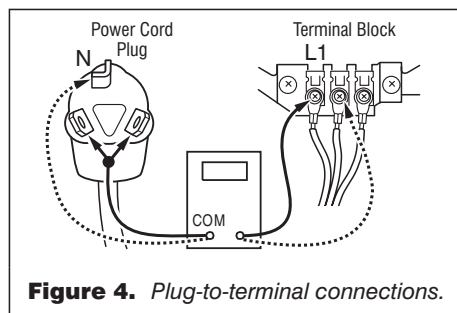

Figure 4. Plug-to-terminal connections.
4. With an ohmmeter, check for continuity between the neutral (N) terminal of the plug and the center contact on the terminal block. See figure 4.
5. In a similar way, check which terminal of the plug is connected to the left-most contact on the terminal block and make a note of it. This will be L1 (black wire) in the wiring diagram. See figure 4 above and the appropriate wiring diagram. See pages 11 and 12.